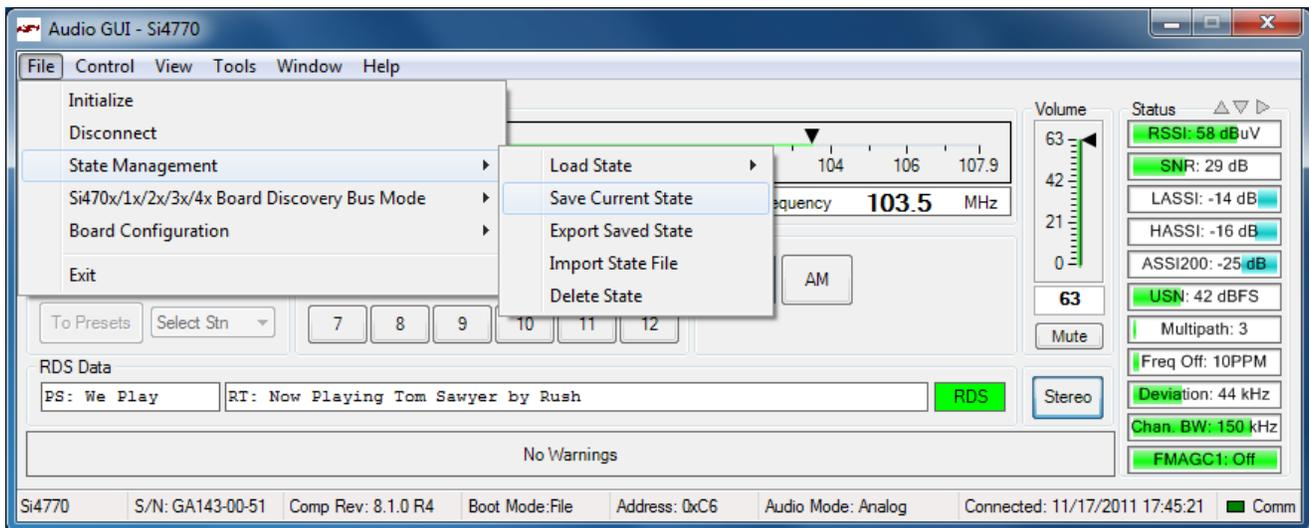

Figure 10. Saving Configuration State
1. Go to File→ State Management→ Save Current State as shown in Figure 10.